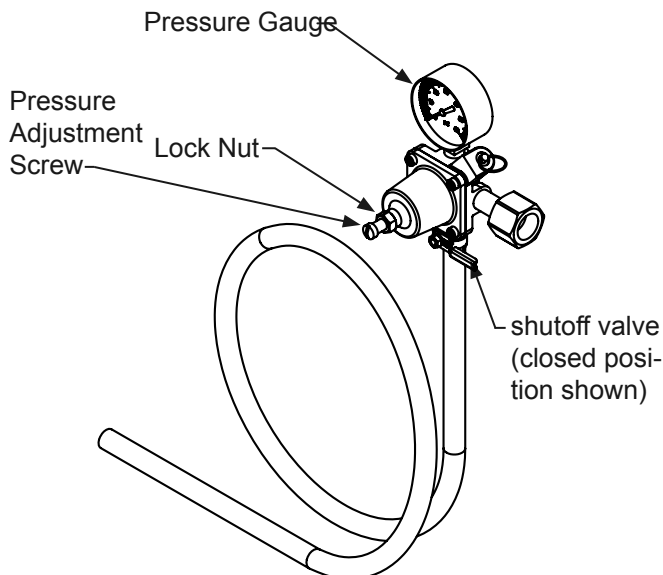
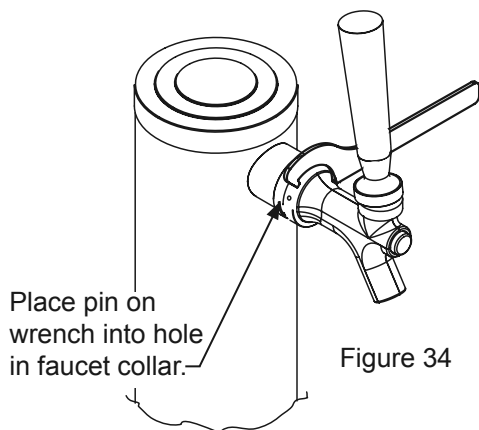
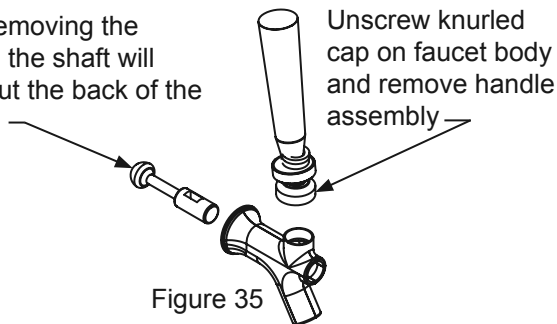

Figure 28 (Regulator for Single Dispense Tower)
Figure 34
Figure 35
2. Be sure the faucet handle is closed on the tower (see Figure 28).
Turn off the gas supply with the shutoff valve(s) under the regulator (see Figure 28 or 29) and open the faucet to relieve the pressure. To remove the faucet from the tower use the spanner wrench provided. Place the pin on the wrench into the hole on the faucet collar and turn clockwise to remove the faucet. (See Figure 34). Remove the knurled cap from the faucet body just below the handle and pull the handle assembly from the faucet. This will allow the shaft to be removed from the back of the faucet, see Figure 35.